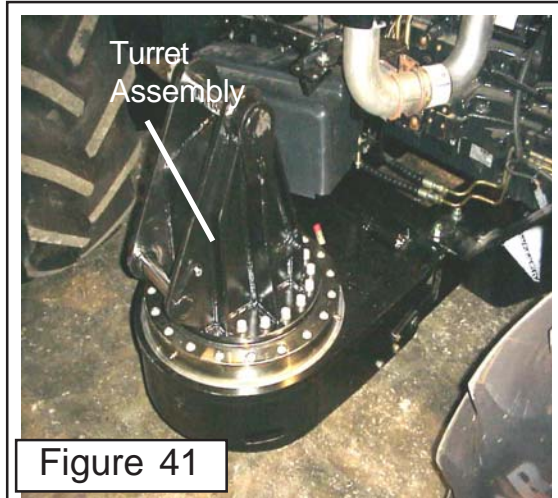
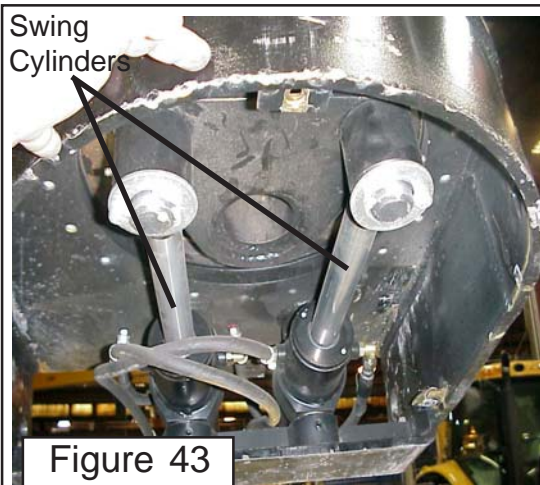

Figure 41
Figure 43
1. Boom Swing Stop Location. The boom Stop adjustment cannot be seen from the top of the turret assembly (See Figure 41). If the bottom cover plate (See Item 42) is not already removed it will need to be, it is bolted on from the under side of the turret assembly. From the under side you will see the swing cylinders and cylinder pivot mounts (See Figure 43).